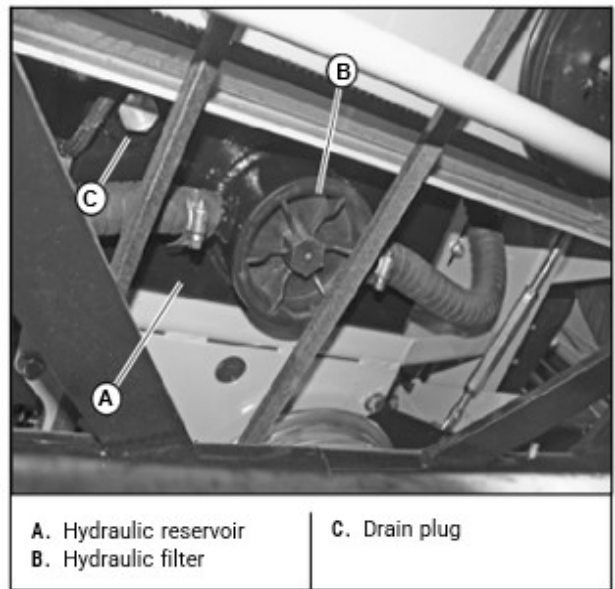

Figure 12
**IMPORTANT:** It is necessary to drain the system oil from the hydraulic reservoir, using the reservoir drain plug, before removing the hydraulic filter. Replace the drain plug before adding system oil. [Figure 12]
The system filter is located inside the hydraulic reservoir on the underneath side of the tank. **Use an approved filter element only.** When changing the filter use a 15/16" socket. The threads are right hand. [Figure 12]